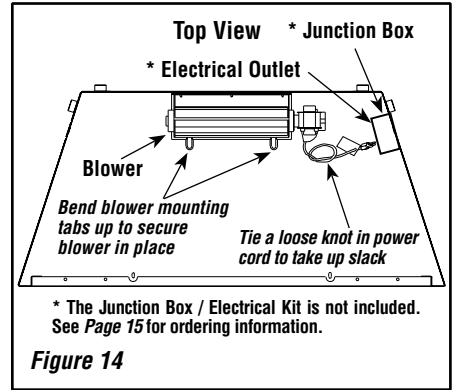

Figure 14
**Step 5.** Plug power cord into the electrical outlet as illustrated in *Figure 14*.